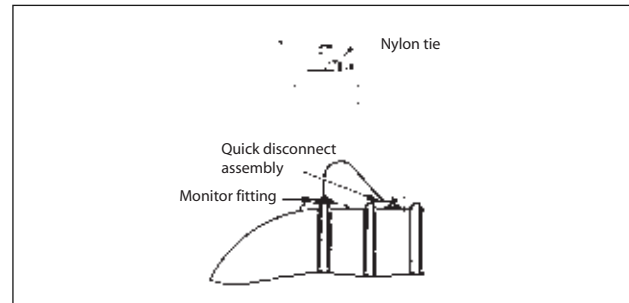

FIGURE 3-4
3.5.1. Tanks with a dry interstitial space come with a quick-disconnect assembly. (See FIGURE 3-4.)
3.5.1.1. If the tank is not configured as shown in FIGURE 3-4 prior to preinstallation testing, call the UST coordinator at the Xerxes plant nearest you.